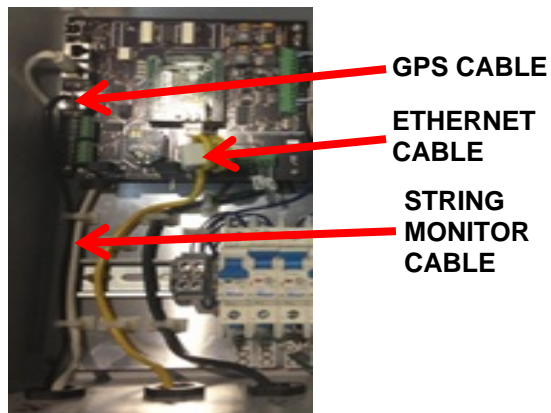

Fig. 8
- e. In the box, route the cable between the lower right PCB standoff and the enclosure wall. Route the cable counterclockwise around the lower standoff and under the PCB. From underneath the PCB, route the cable to the topside (Fig. 8). Use the cable holders which come with the DTMAC packaging to secure the cable to the back panel and to route the cable.
- f. Insert the RJ45 plug into the modular jack labeled **RJ3-GPS** (Fig. 8).
- a. Feed the Ethernet cable through the SunPower provided cable gland (or conduit—in which case the gland is not needed) and route the cable between the front standoff and the enclosure wall (Fig. 8).
- c. Continue to route the cable underneath the PCB and to the left side of the upper right standoff (not between the upper standoff and enclosure wall), and then bring the cable to the topside of the PCB (Fig. 8).